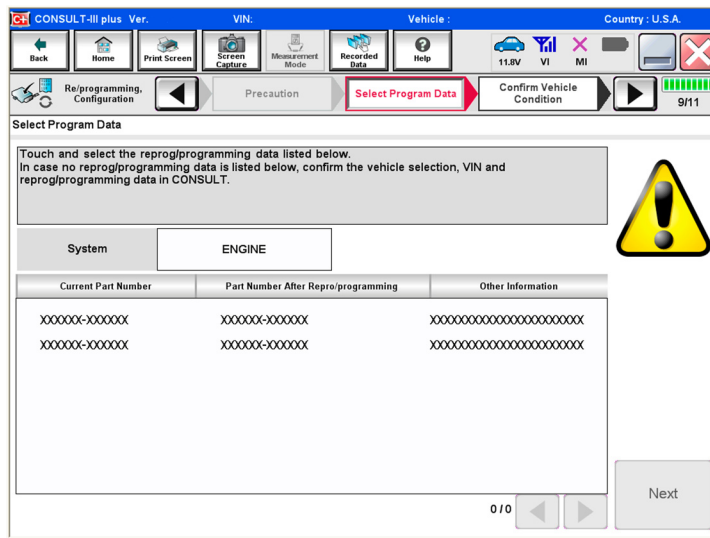

Figure 4
- In this case, the screen in Figure 4 displays.